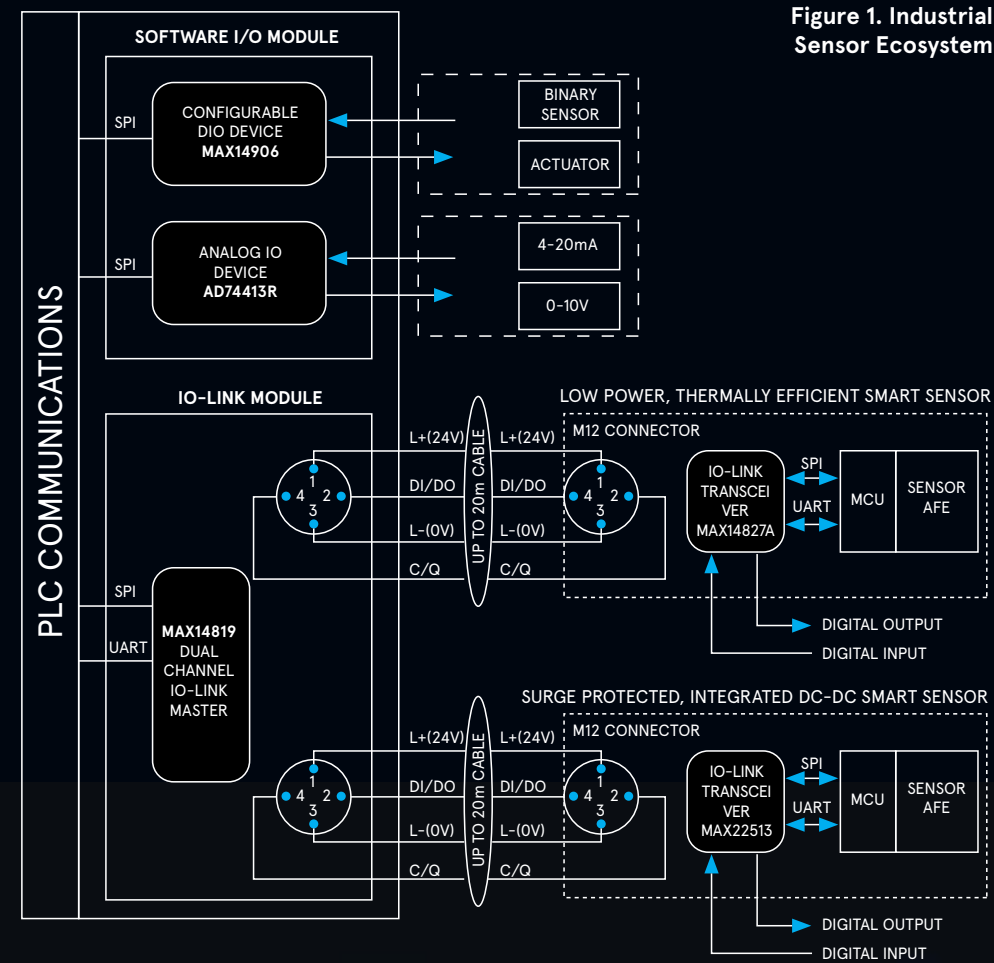

Figure 1. Industrial Sensor Ecosystem
IO-Link is very powerful and flexible, allowing some of the overall system intelligence to be moved closer to the sensors on the factory floor. An IO-Link master is coupled with a device using a standard sensor/actuator cable measuring up to 20 meters in length. The device - which may be any sensor, any actuator, or a combination of the two - transmits and receives data (binary switching, analog, input, output) that is transmitted directly via IO-Link in a digital format. Figure 1 shows a typical industrial sensor ecosystem including analog I/O, digital I/O, and IO-Link connection.
As shown in Figure 1, IO-Link transceivers that include an additional digital output (DO) and/or digital input (DI) allow the device microcontroller to process binary signals in addition to IO-Link communication. For example, the additional DI and DO connections can allow the on-board microcontroller to also input signals from a binary sensor, and drive a lamp (e.g. if a threshold has been surpassed). In short, all processing can be done at the sensor itself.